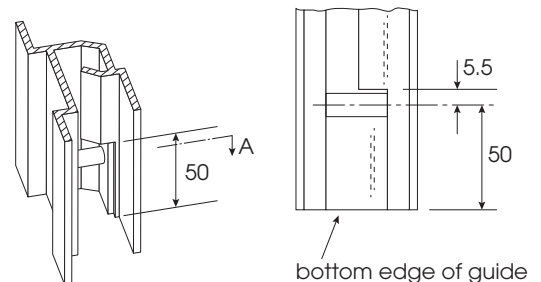

Fig: 2.6.5
- h) For bottom rails with shoot bolt locking refer to Fig 2.6.5.